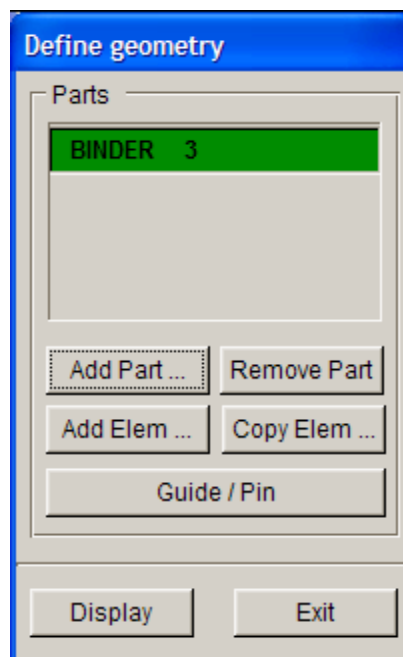

Figure 7.24 Binder geometry list
24. Click **OK** button to return to the DEFINE GEOMETRY dialog box. The **BINDER** part is added to the list. See Figure 7.24.